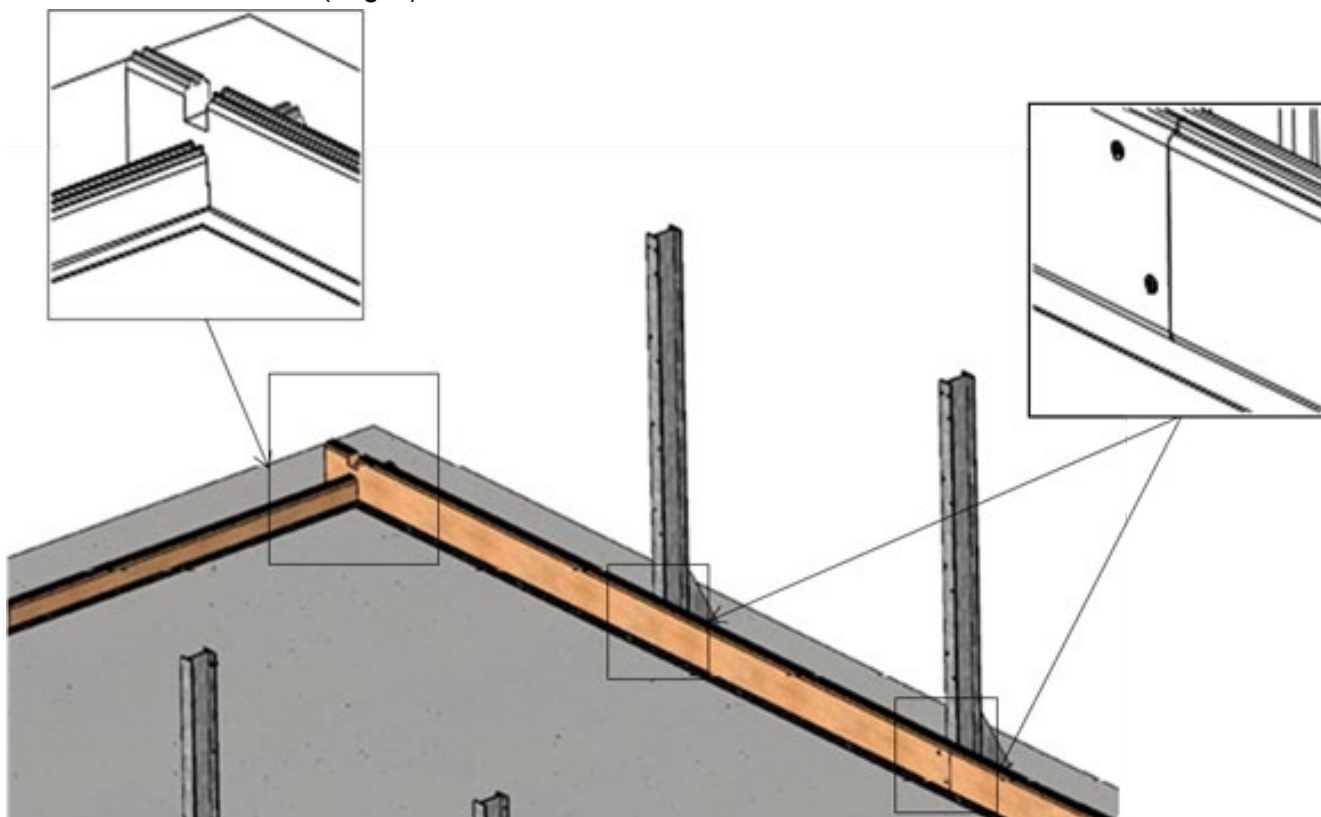

Figure 12 –
- referring to *Figure 12*, screw the slats together using 2 screws per pair of slats in each of the 10 rows, that is, 160 countersunk screws 5 × 40 A4 SS torx threaded over 25 mm (bag C);